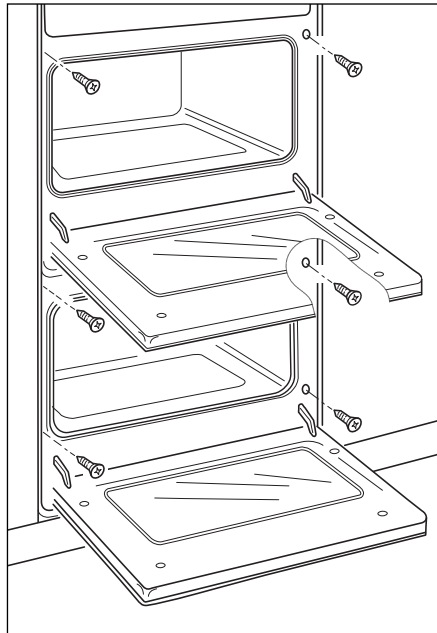

Fig. 1 Securing the oven to the cabinetry
- *Use the supplied screws to secure the oven to the cabinetry. Do not over-tighten the screws. (See Fig. 1)*